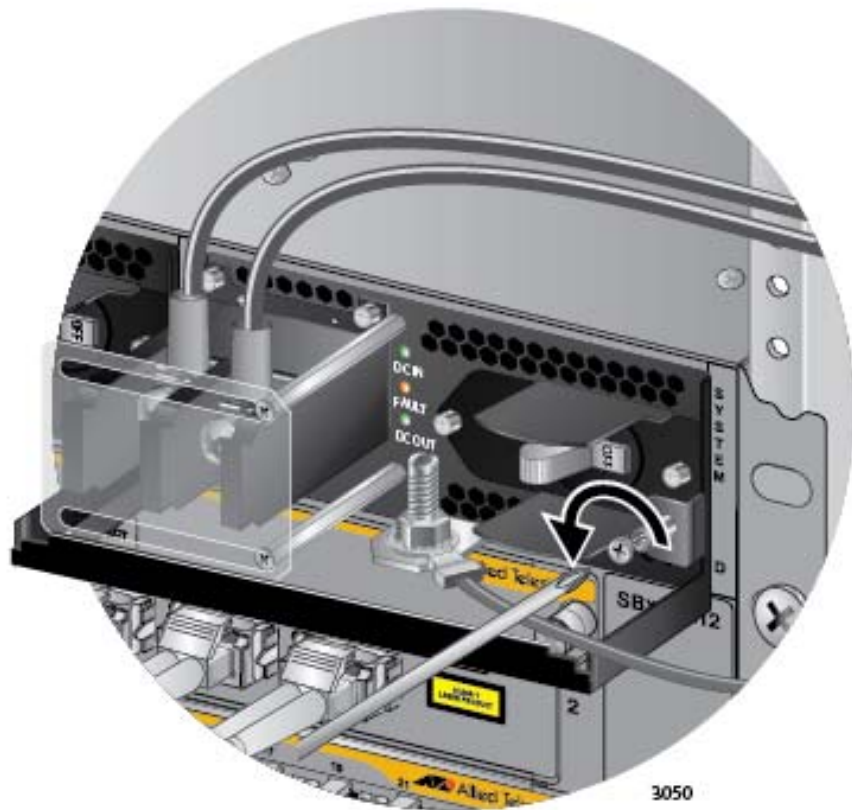

Figure 150. Loosening the Screw on the Locking Handle
3. Use a #2 screwdriver to loosen the screw on the locking handle. Refer to Figure 150.